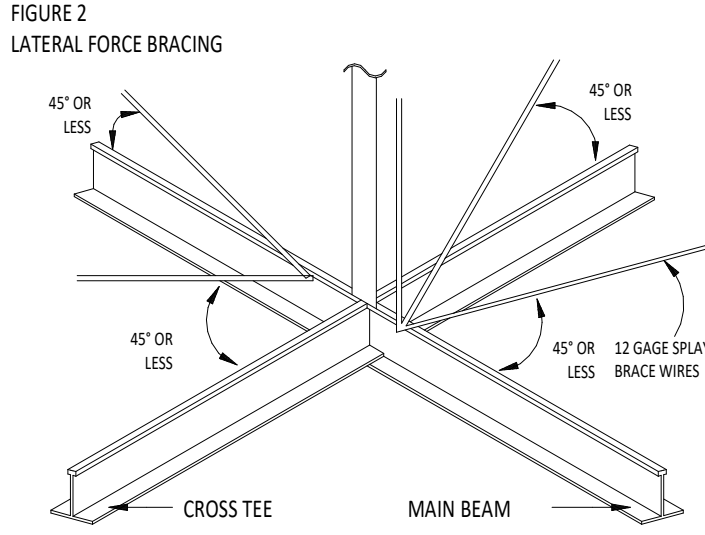

FIGURE 2
LATERAL FORCE BRACING (FIGURES 2 AND 3)
- LATERAL FORCE BRACING IS THE USE OF VERTICAL STRUTS (COMPRESSION POSTS) AND SPLAY WIRES (SEE FIGURE 2).